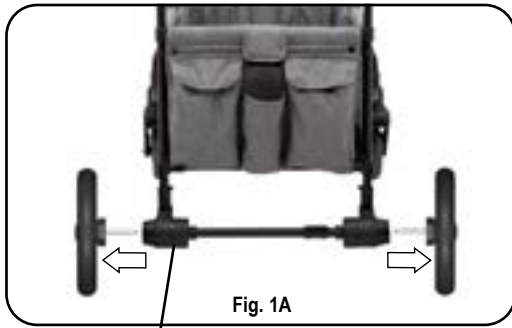

Fig. 1A
- To release rear wheels from axle: While pressing the release button located on the back of the wheel housing, remove wheel by pulling away from housing (Fig. 1A).